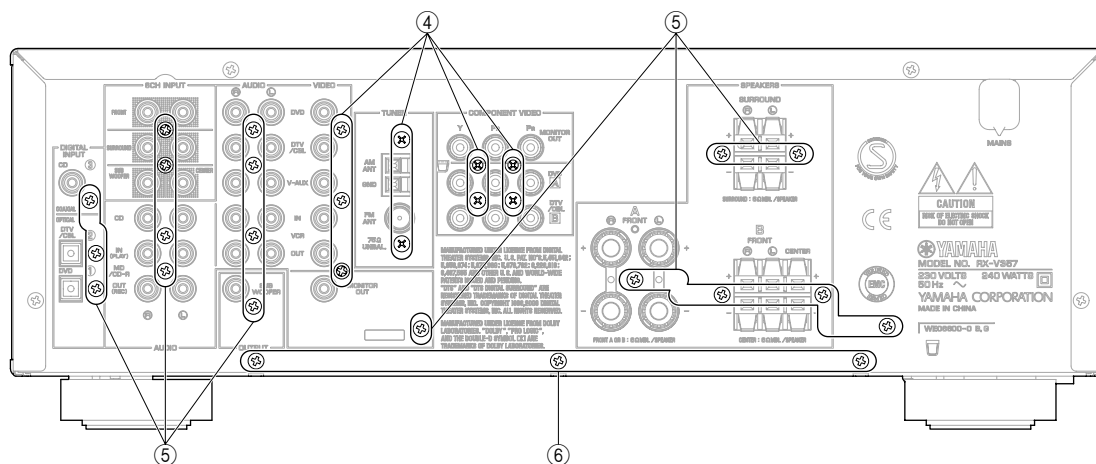

Fig. 3
- Remove 9 screws (④). (Fig. 3)
- Remove 18 screws (⑤). (Fig. 3)
- Remove 3 screws (⑥). (Fig. 3)